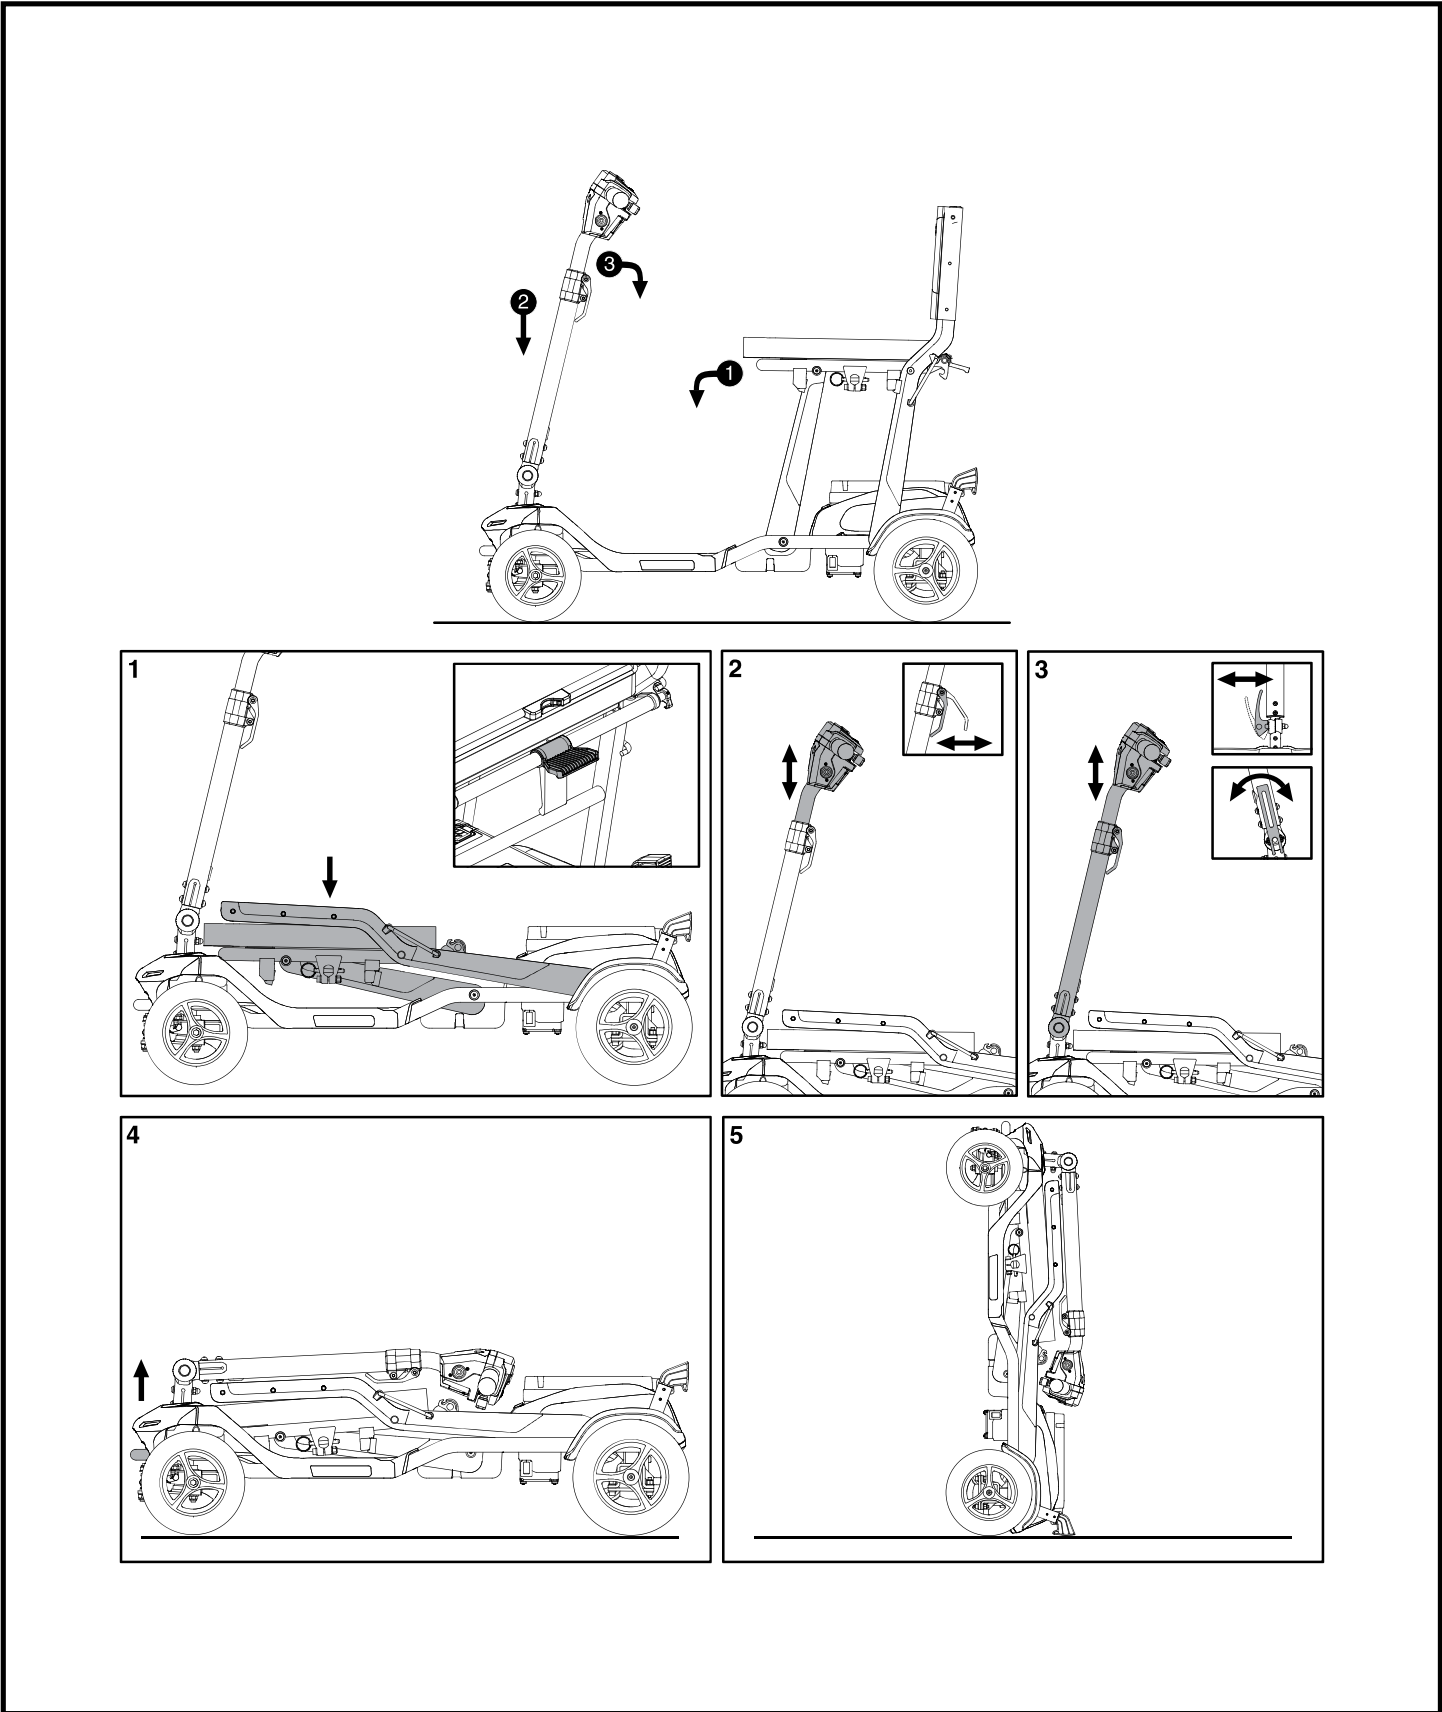

Figure 14 Folding for Transport
**To fold your scooter (see figure 14):**
**To unfold your scooter (see figure 14):**
1. Fold your scooter as shown in step 5 in figure 14. Refer to V. “Disassembly/Assembly and Folding/Unfolding” for more information.